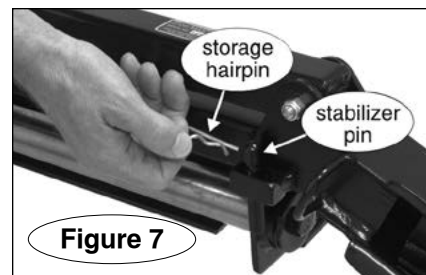

Figure 7
3. Pull the storage hairpin (Figure 7) out of the groove on the stabilizer pin (Figure 7) on the driver's side of the folded tow bar, and remove it.